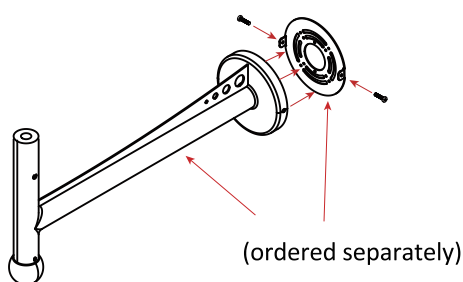

Fig. 9
2. Align the straight arm with the holes on both sides of the mounting plate and fasten it horizontally with two M5 screws. See Fig. 9.